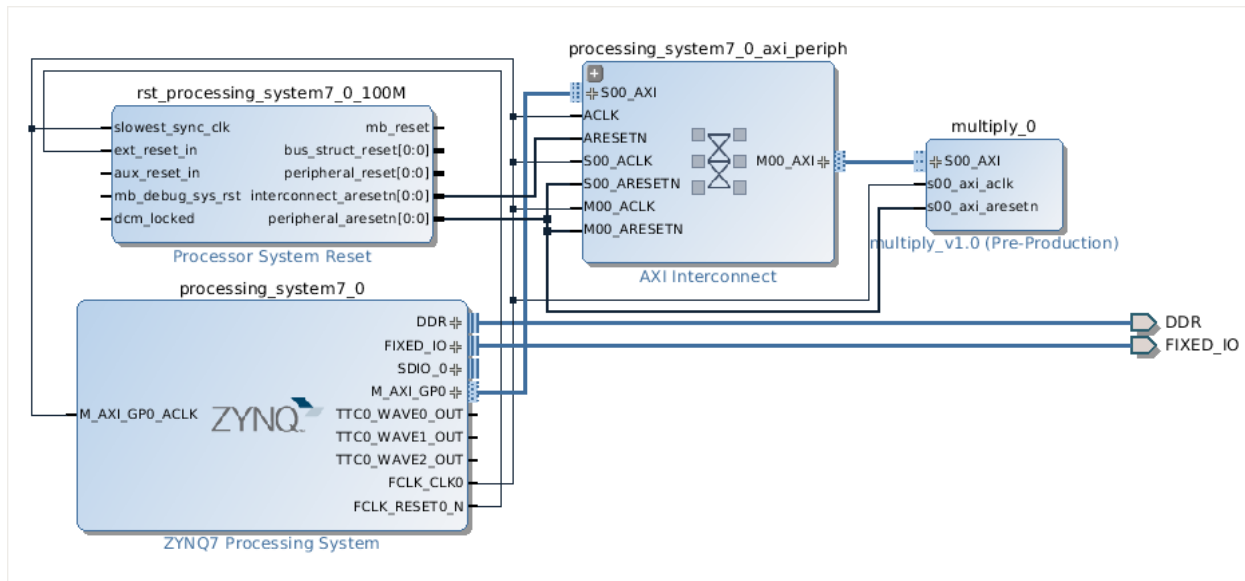

Figure 2: Base System Design
- (b) Next create block design, add 'ZYNQ7 Processing System' (PS) IP, import 'ZYBO\_Z7\_B2.tcl' file' as shown in Lab 3.
- (h) Run connection automation and regenerate layout as shown in Lab 3. Now the base system should look like the one as in Figure 2